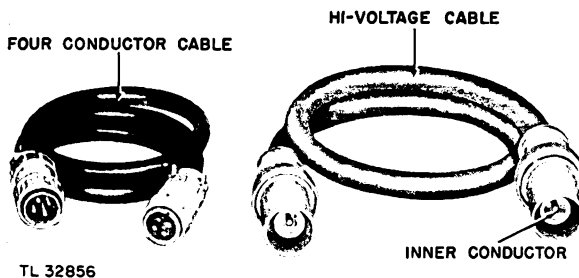

Figure 11. Cables.
*a. General.* The cables in the AN/TPS-3 equipment may be regarded as the life lines of the equipment. The condition of the cabling must be closely observed. See figures 11 and 12.